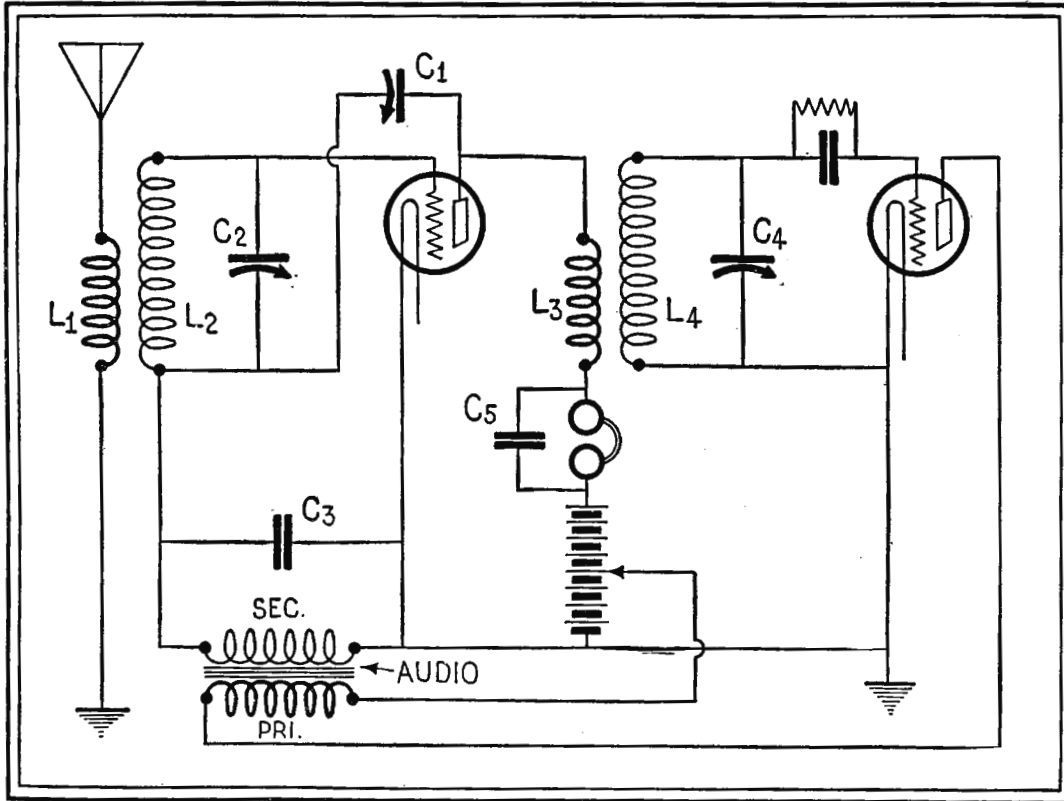
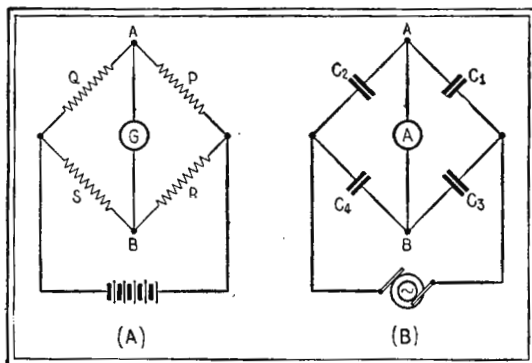
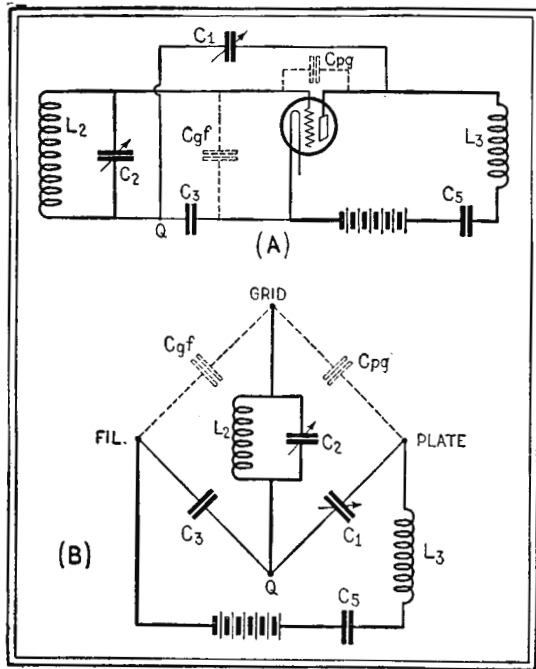

Figure 1
Figure 2
Figure 3
The diagram of Fig. 1 illustrates the fundamental Counterflex
Another form of Wheatstone Bridge is shown in Fig. 2 (B). In
To appreciate the underlying principles of this circuit it is necessary to understand the properties of a Wheatstone Bridge as the Counterflex circuit utilizes the Bridge principle to control oscillation. Fig. 2 (A) illustrates the connections of a simple bridge. P, Q, R
Now refer to Fig. 3 (A) which represents the radio frequency amplifying portion of the Counterflex circuit of Fig. 1. Incoming
Fig. 3 (B) shows how this feed-back is prevented. This diagram is exactly the same circuit as Fig. 3 (A). The units are merely rearranged to more clearly demonstrate that the capacities C1 and C3 combine with the capacities Cpg and Cgf to form the arms of an all-capacity bridge of the type illustrated in Fig. 2 (B). The grid oscillatory circuit L2C2 occupies the same position as the meter A. The plate circuit is connected across the terminals of the bridge as the source of alternating e. m. f. in Fig. 2 (B). Now, just as the
bridge of Fig. 2 (B) can be balanced to prevent current from flowing through the meter A, the capacity bridge of Fig. 3 (B) can similarly be balanced to prevent current oscillations from being produced in the grid circuit L2C2 when an oscillating e. m. f. is impressed across the plate and filament by oscillations induced in the coil L3. In other words, feed-back from the plate to the grid circuit, through the plate-grid capacity of the tube, can be completely eliminated. To balance the bridge it is only necessary to adjust the capacity of the Counterdon C1.